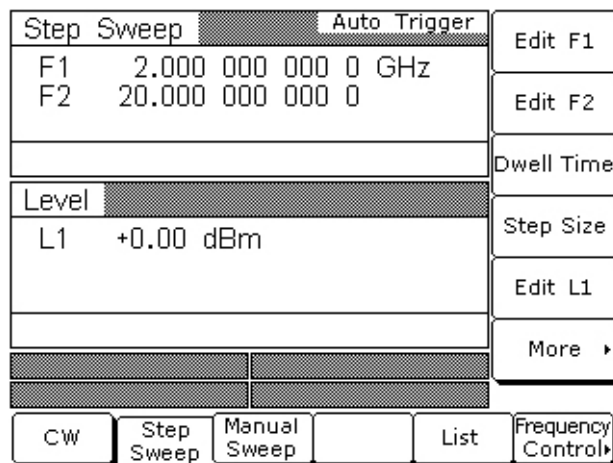

Figure 5-8. Analog Sweep Menu
- b. Press Analog Sweep to place the MG369xC in the analog sweep frequency mode and display the Analog Sweep menu (Figure 5-8).